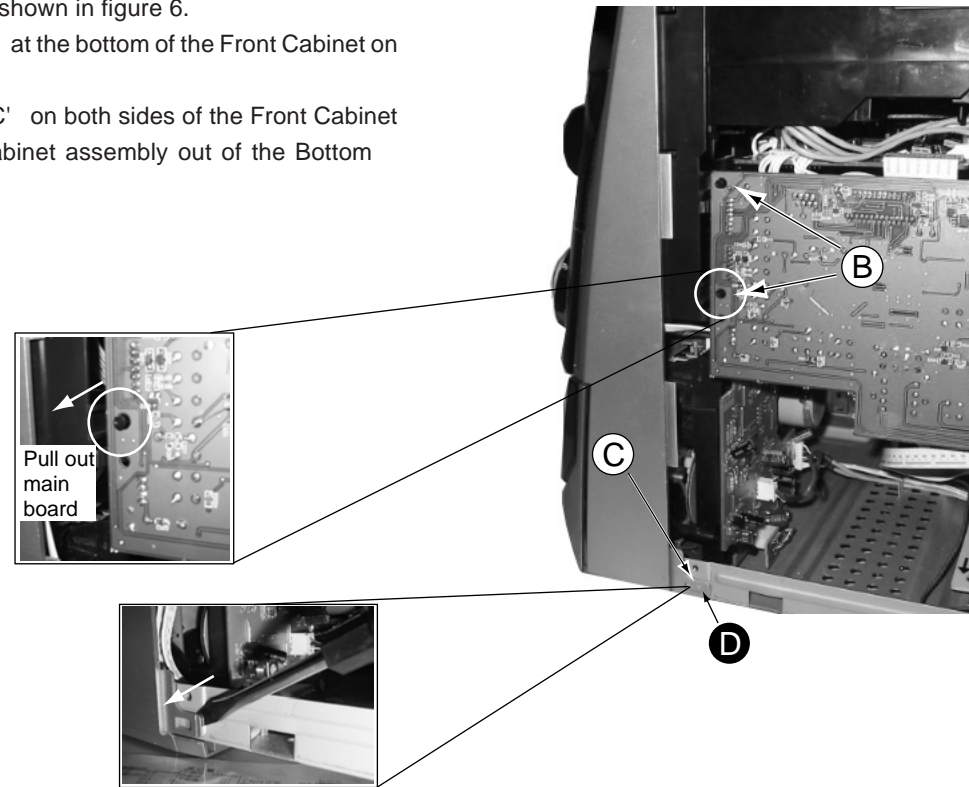

Figure 6
- 1) Release 2 catches ' B ' to free the Main board from the Front Cabinet Assembly as shown in figure 6.